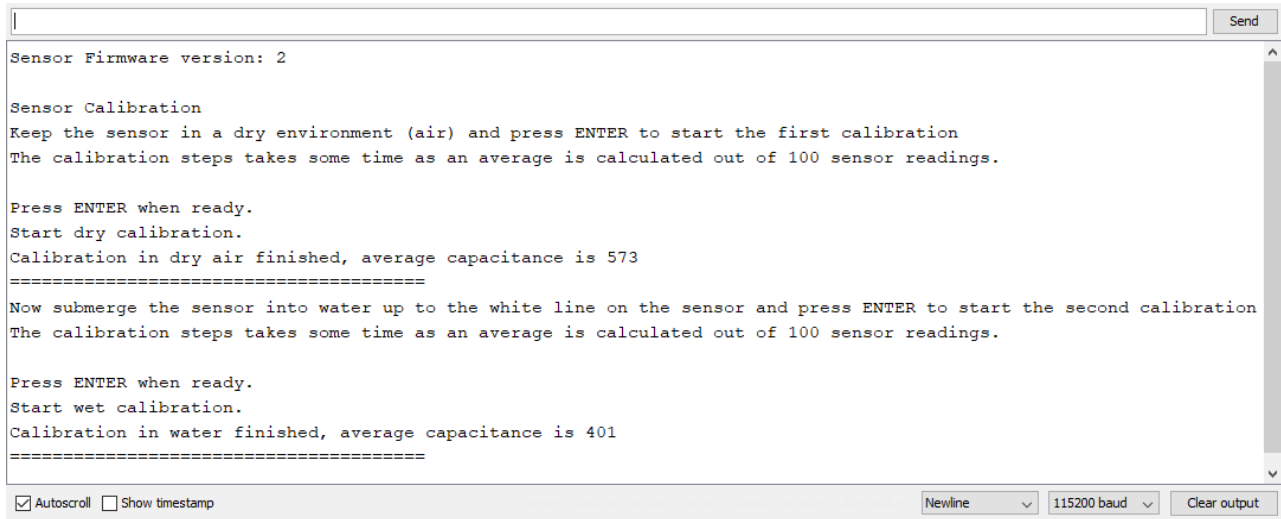

Figure 15: Calibrating the RAK12035 Sensor
5. Finally, after setting up the Serial Monitor, you'll now be able to see the readings as shown below in **Figure 15**. Follow the steps carefully for you to be able to calibrate your sensor correctly.